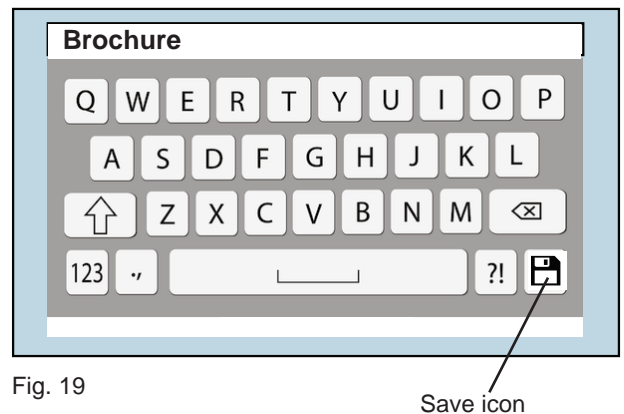

Fig. 19
- Key in the name of the job and press the save icon in the bottom right corner (Fig. 19).